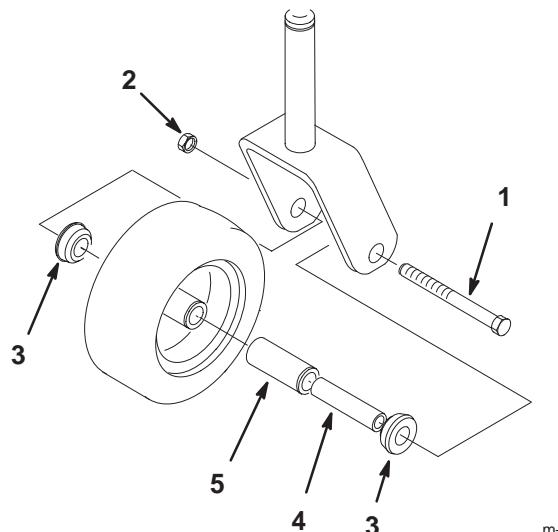

Figure 82
- Remove the locknut and wheel bolt holding the caster wheel to the caster fork (Fig. 82).
- Remove one bushing, then pull the spanner bushing and roller bearing out of the wheel hub (Fig. 82).
- Remove the other bushing from the wheel hub and clean any grease and dirt from the wheel hub (Fig. 82).
- Inspect the roller bearing, bushings, spanner bushing and inside of the wheel hub for wear. Replace any defective or worn parts (Fig. 82).
- To assemble, place one bushing into the wheel hub. Grease the roller bearing and spanner bushing and slide them into the wheel hub. Place the second bushing into the wheel hub (Fig. 82).
- Install the caster wheel into the caster fork and secure with the wheel bolt and locknut. Tighten the locknut until the spanner bushing bottoms against the inside of the caster forks (Fig. 82).